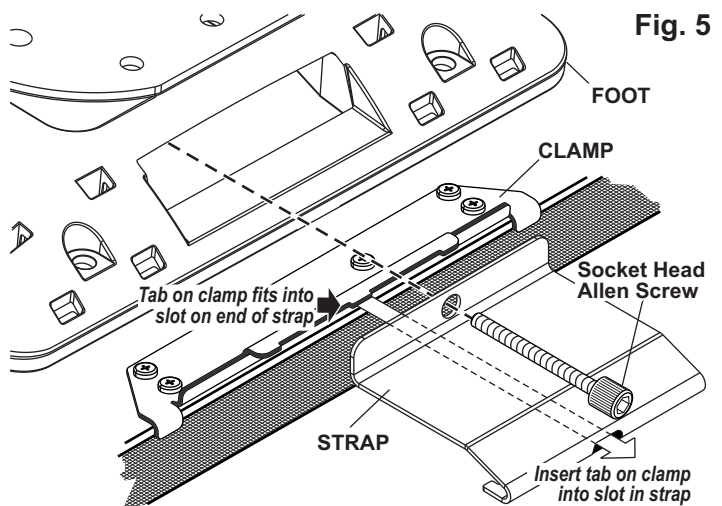

Fig. 5
- With the lightbar in position on the vehicle, slide the end of the mounting strap into the mounting foot and loosely secure it to the foot with the Socket Head Allen Screw (Fig. 5).
- Bring the outside of the mounting strap down to the clamp and hook the end around the clamp. The end of the strap fits into an indentation on the clamp and the clamp has a tab that inserts into the slot on the end of the strap centering the strap and holding it in place (Figs. 5 & 6).